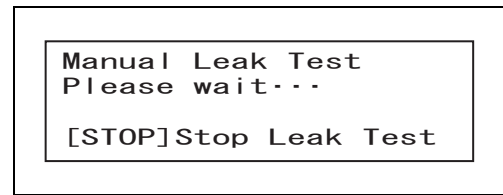

Figure 5.18
- 4 Press the START button, and the indicator shown in Figure 5.18 will be displayed. Do not immerse the endoscope in water while the indicator is being displayed because the endoscope has not been sufficiently pressurized.